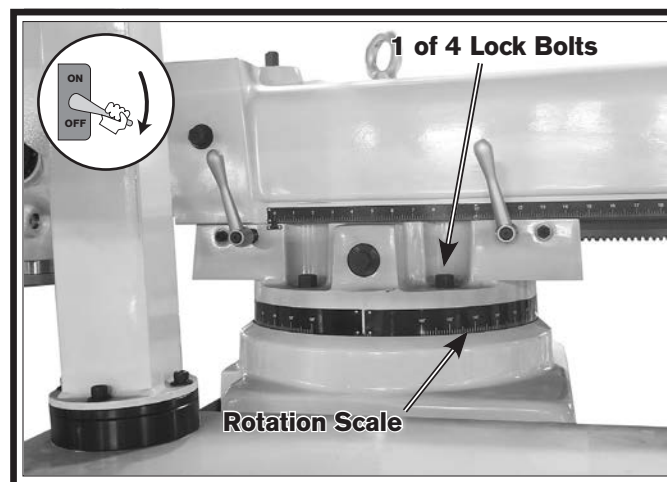

Figure 25. Ram rotation lock bolts.
2. Loosen four lock bolts on top of turret (see **Figure 25**).
3. Push on head to manually rotate it. Use rotation scale (see **Figure 25**) to determine correct position for your operation